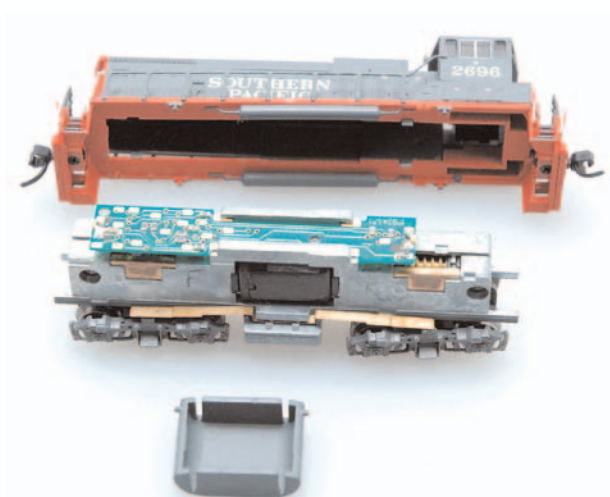

Figure 4. Atlas MP-15DC with shell ready for reassembly
6. Re-install the MP-15DC shell and fuel tank and you're done! **Figure 4)**